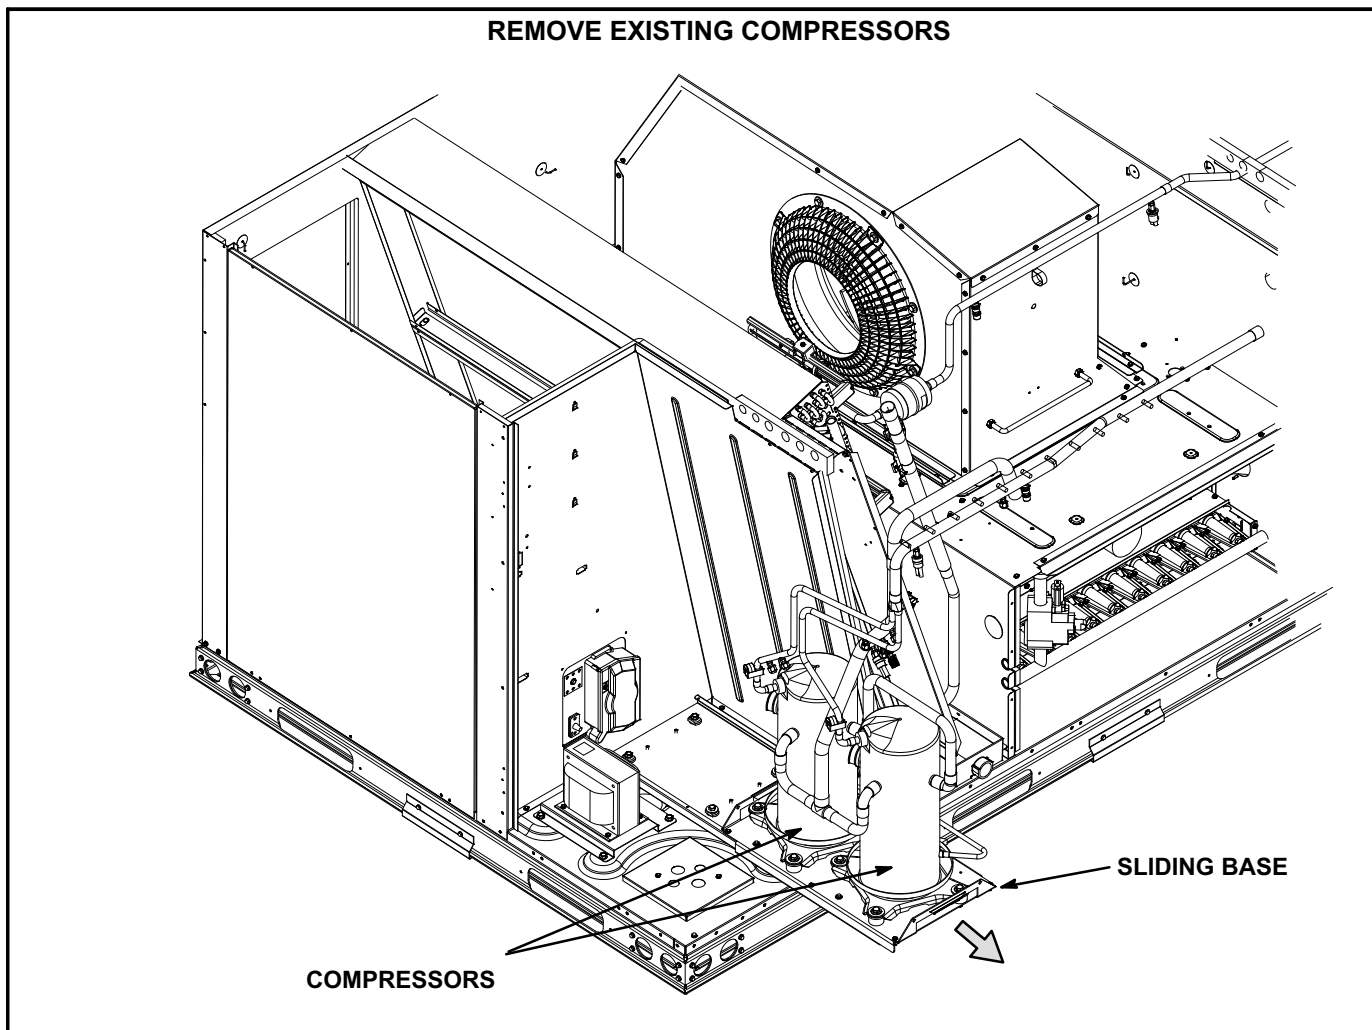

FIGURE 4
- 5- Remove four screws on the compressor sliding base which secure the sliding base to the fixed base. Slide compressor assembly out of unit. See figure 4.